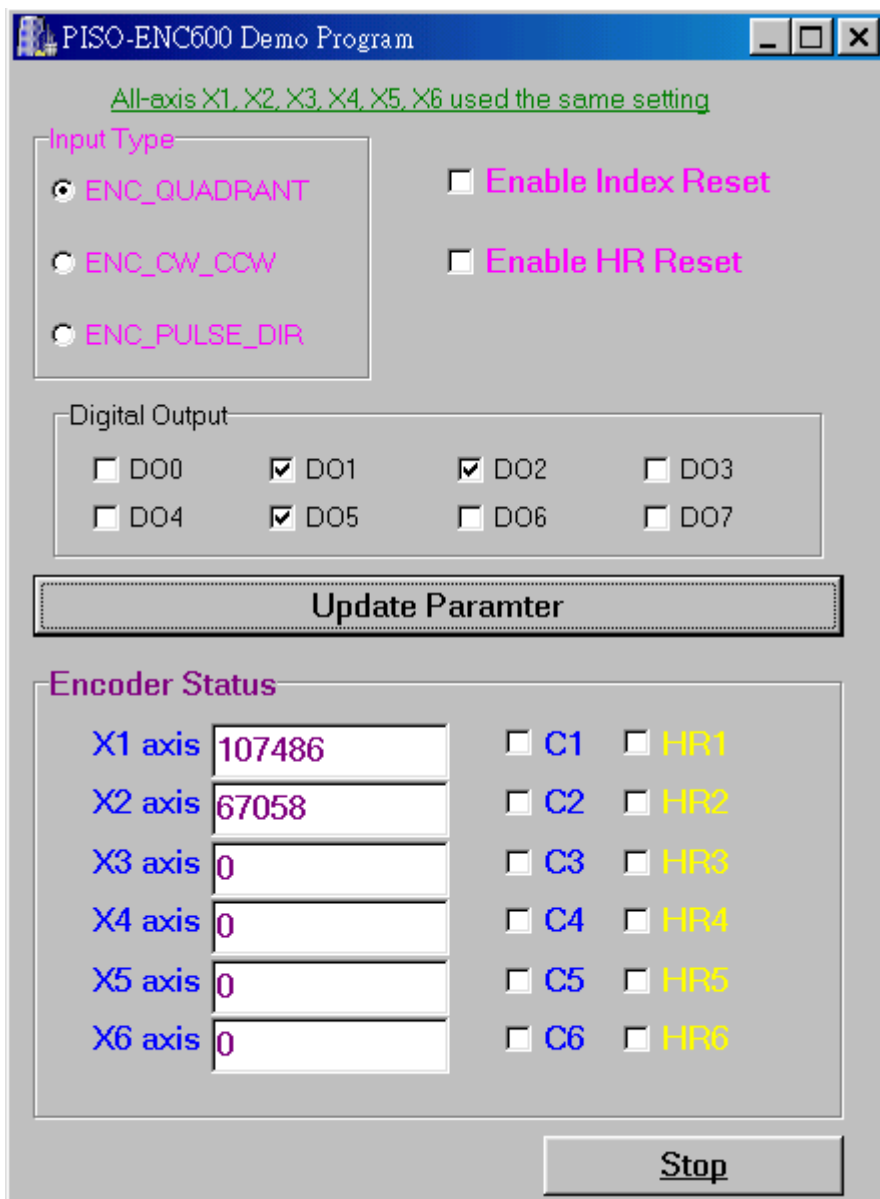

Figure 11: The panel of the enc6demo.exe
(1) enc6demo.exe
The enc6demo.exe (source codes included) is an example of the PISO-Encoder600(U) board for Windows environment. It works in operation systems Windows9x/ME and NT/2000. The function of this demo program is described as follows. A pop-up panel as shown in Figure 11 is shown on the graphic display.